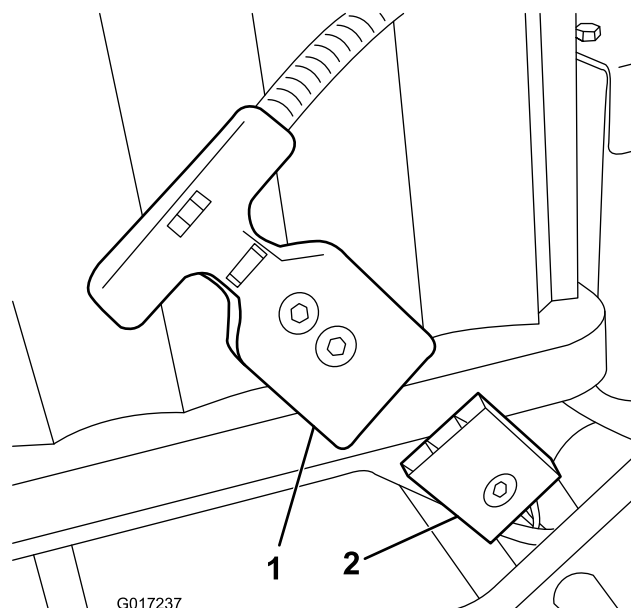

Figure 2
5. Disconnect the T-handle connector of the battery adapter wire harness from the P04 connector of the battery-wire harness (Figure 2).